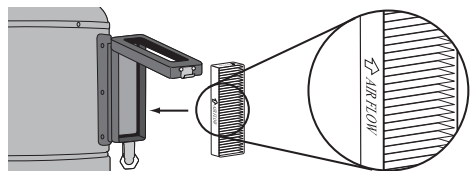

figure 10
3. Insert the new filter. When doing so, please ensure that the arrow printed on the filter itself points outwards. (**figure 10**).